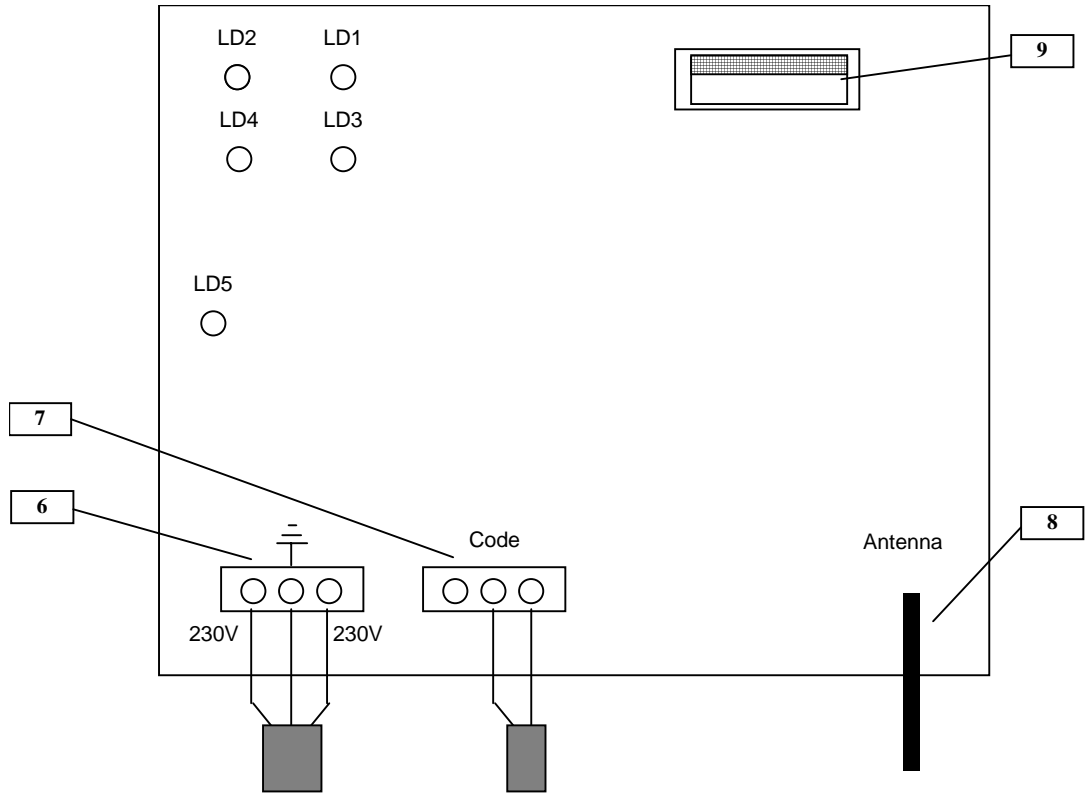

Figure 87 : Upside view of the radio generator (under cover)
- A2 (Indicators) aid is provided by the LEDs located inside the Radio Generator (Figure 87). The role of the different LEDs is detailed in Figure 87 description.
☞ Refer to Figure 87.